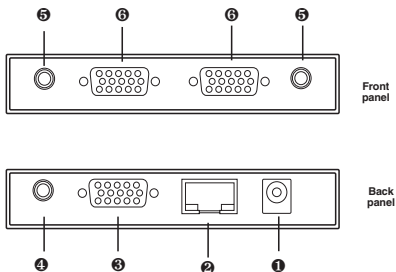
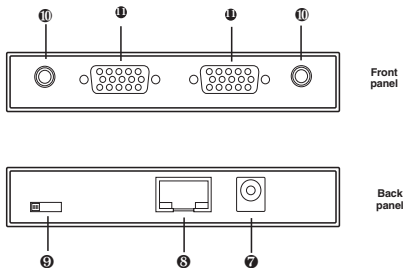

Figure 2-1. VGA Extender with Audio, local unit.
Figure 2-2. VGA Extender with Audio, remote unit.
The AC556A-R2 local and remote units are pictured in Figures 2-1 and 2-2. Tables 2-1 and 2-2 list the descriptions identified by the circled numbers in Figures 2-1 and 2-2.
You'll need one local and one remote unit (AC555A-R2 includes both, or order AC555A-4-R2 and AC555A-REM-R2 separately), a VGA source such as a monitor (not included), Category 5, 5e, or 6 cable (not included), and power supplies (one for each unit, included). Follow the steps listed on the next page and refer to Figures 2-1, 2-2, and 3-1 as you install the extenders.
2. Using the included VGA cable, connect the local unit's HD15 input connector (labeled ③ in Figure 2-1) to the VGA source (for example, a PC).
3. Using the monitors' cables, connect two output monitors to the local unit's HD15 output connectors (labeled ⑥ in Figure 2-1).
4. Using audio cable, connect the local unit's audio input connector (labeled ④ in Figure 2-1) to the VGA source's audio connector. (This step does not apply to the AC555A-R2 and AC555A-4-R2; they do not support audio connections.)
5. Connect the local unit's two audio output connectors (labeled ⑤ in Figure 2-1) to two sets of speakers. (This step does not apply to the AC555A-R2 and AC555A-4-R2; they do not support audio connections.)
6. Using the monitors' cables, connect two output monitors to the remote unit's HD15 output connectors (labeled ⑩ in Figure 2-2).
7. Connect the remote unit's audio output connectors (labeled ⑪ in Figure 2-2) to the VGA source's audio connectors. (This step does not apply to the AC555A-R2 and AC555A-REM-R2; they do not support audio connections.)
8. Using Category 5, 5e, or 6 cable, connect the local unit's CAT5 output port (labeled ② in Figure 2-1) to the remote unit's CAT5 input port (labeled ⑧ in Figure 2-2).
9. Connect each unit's power supply to its power supply connector (the local power connector is labeled ① in Figure 2-1, and the remote power connector is labeled ⑦ in Figure 2-2).
Adjust the equalizer selector switch on the remote unit (labeled ⑨ in Figure 2-2) for optimum video signals for various cable lengths. Choose from the four lengths listed in Table 4-1.